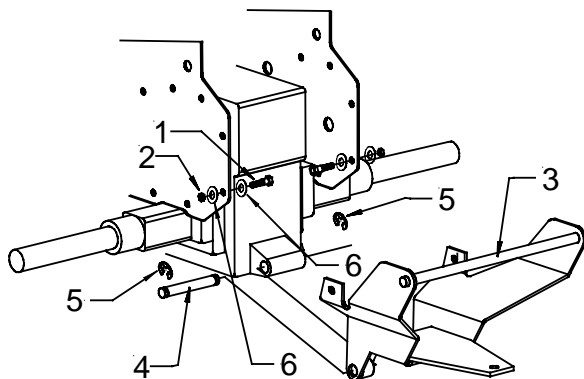

Figure 2
2. Install the quick hitch in place with tractor's original tow hitch pin and clips, and secure to tractor frame, using bolts with flatwashers and lock nuts with flatwashers (fig. 2). Tighten securely.